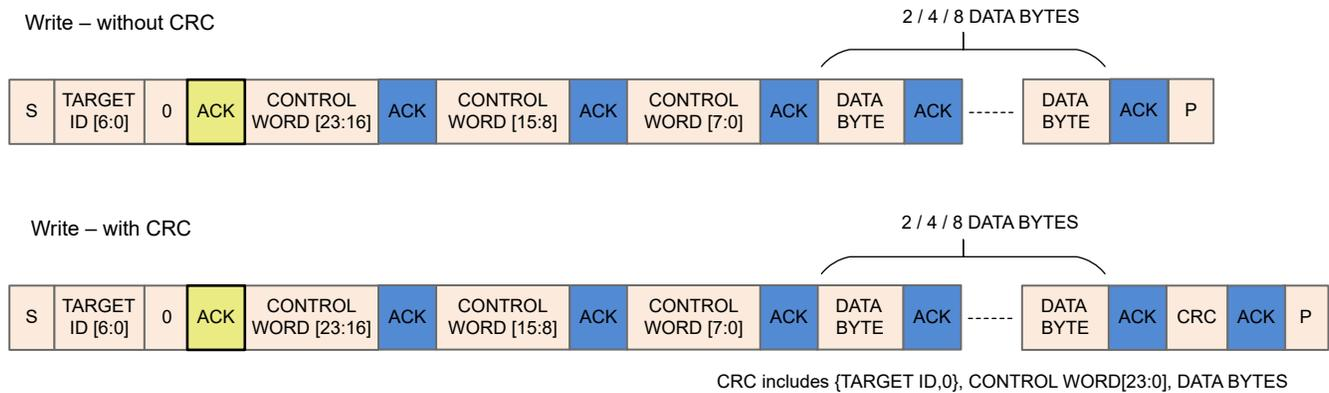
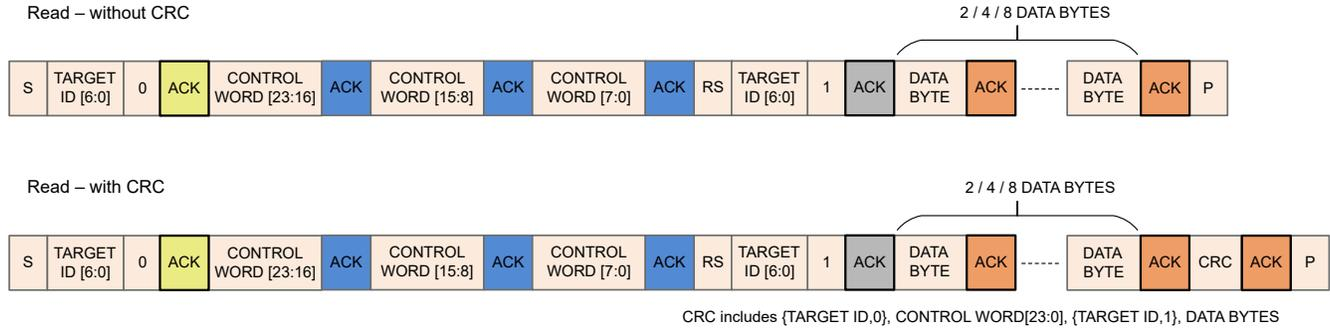

Figure 7-57. I²C Write Transaction Sequence
Figure 7-58. I²C Read Transaction Sequence
MCF8315A write transaction over I²C involves the following sequence (see Figure 7-57).
MCF8315A read transaction over I²C involves the following sequence (see Figure 7-58).
- a. When target ID is a match, I²C peripheral in MCF8315A raises a start interrupt request. Until this start interrupt request is processed, clock is stretched. Upon processing this request, clock is released and an ACK (marked in yellow or grey in Figure 7-57 and Figure 7-58) is sent to the controller for continuing with the transaction.
2. **Receive interrupt pending:** When a receive interrupt is waiting to be processed and the receive register is full which occurs when two successive bytes (data or control) have been received by MCF8315A (separated by one ACK shown as blue boxes in Figure 7-57 and Figure 7-58) without the receive interrupt generated by the first byte being processed. Upon receive of second byte, clock is stretched until receive interrupt generated by the first byte is processed.